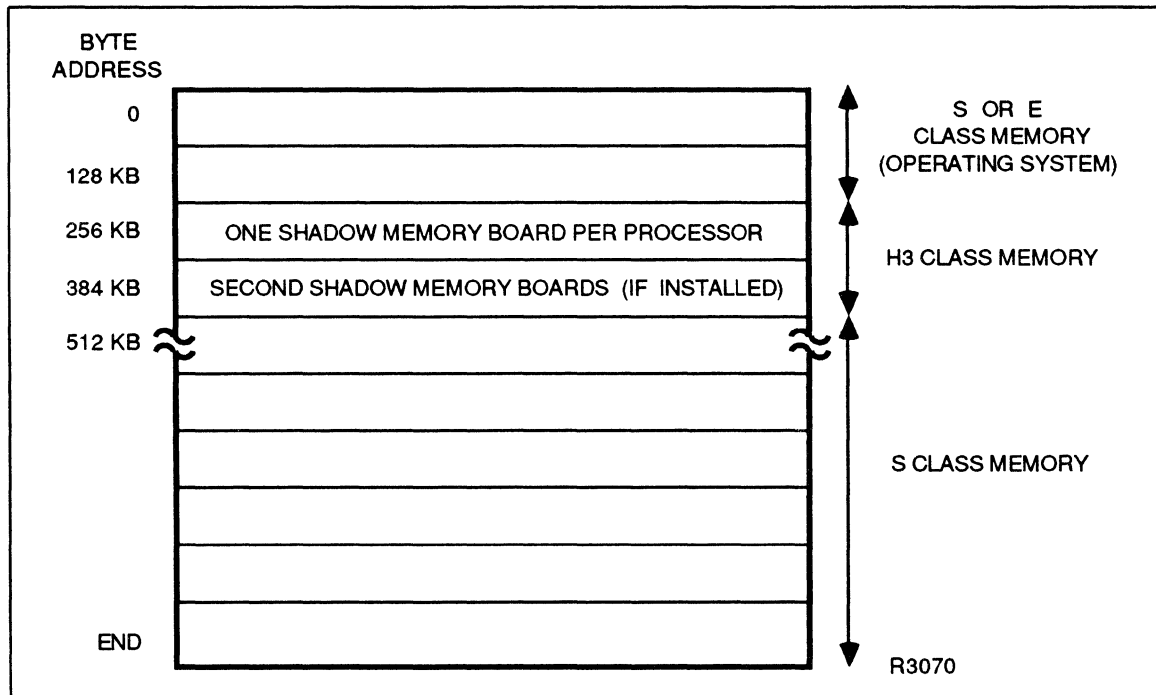

Figure 10-2
- two processors (IPU and CPU) with a single region of shadow memory. The regions must have the same starting and ending addresses and be shadowed by an equal number of shadow memory boards on both processors. See Figure 10-2.